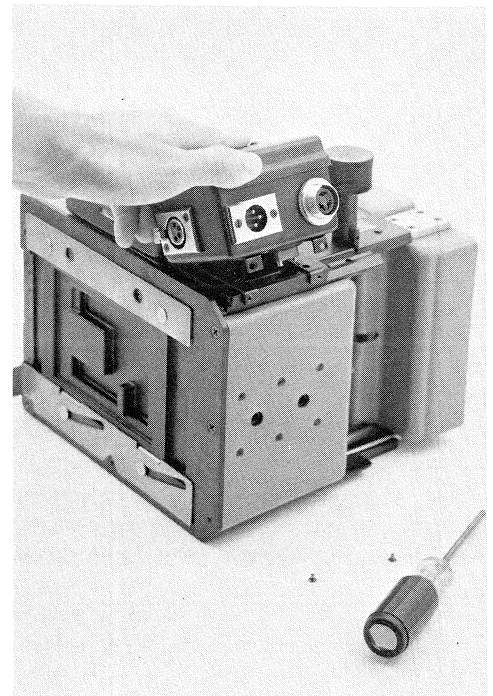

Fig. 5
- e. While lifting the connector side of the box away from the camera, at the same time slide out the opposite side of the power box mounting bracket (L-shaped bracket feet) from under the hold-downs (see Fig. 5).